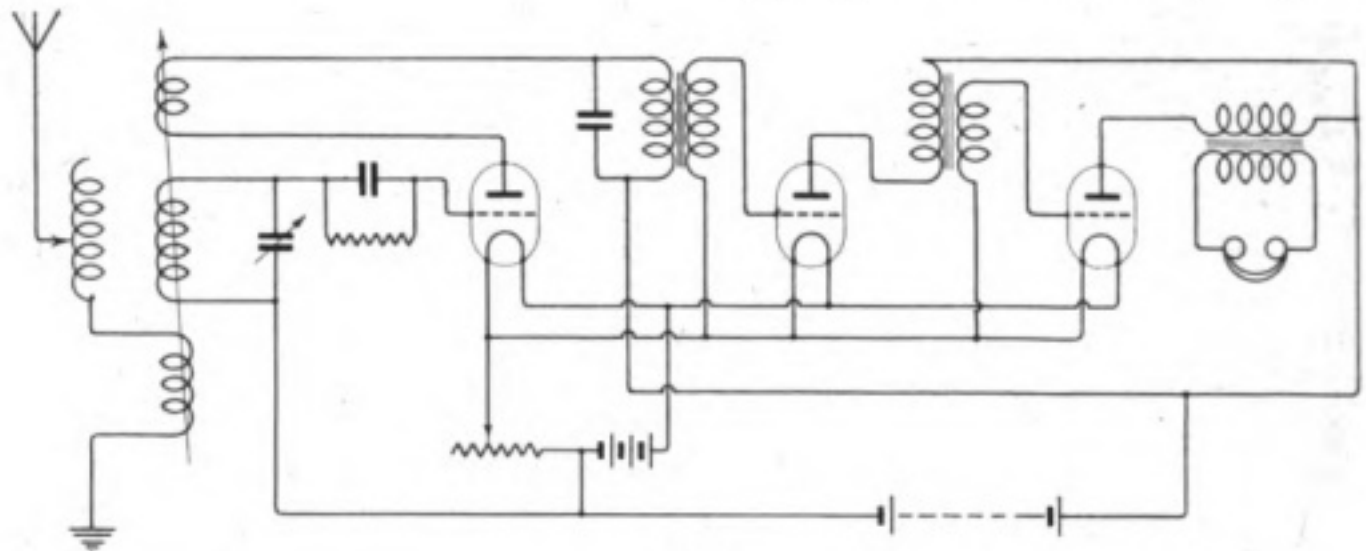

Fig. 7.
(1) Circuit is incorrectly arranged, see diagram (Fig. 7). (2) This is not the most efficient way of using three valves, but you should certainly hear FL. (3) There will not be a great difference in strength, but the transformer arrangement is distinctly preferable on other grounds. (4) This will follow from the suggested rearrangement of the circuit.